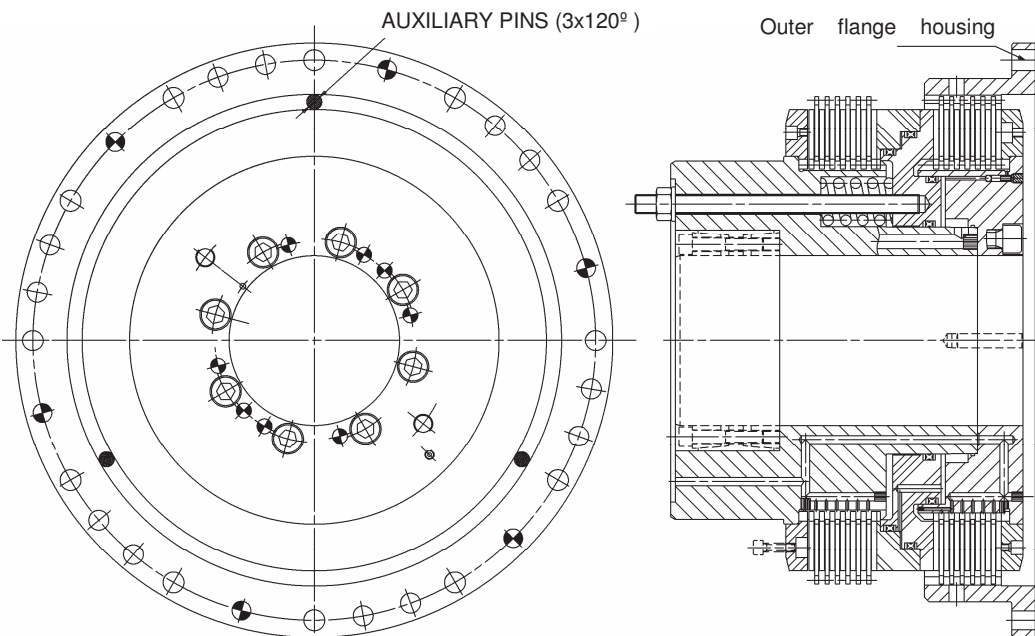

Fig. 14
9. Discs must be placed concentrically to the lateral cover and align the teeth by using the outer housing (brake or clutch side). Mount the housing in the discs as shown in figure 14 and insert 3 pins in order to obtain the concentricity of the discs.